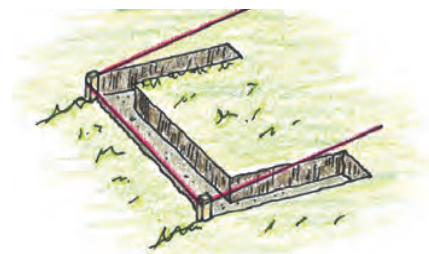

Figure 3
**STEP 3. Excavate first step.** Starting at the bottom, dig a trench for the first riser timber (this will be more like a shallow groove in the ground). Next, if using side timbers, dig trenches for the side timbers, which should be long enough to extend 6" past the next step's riser. Check to make sure the trenches are level (Figure 3).